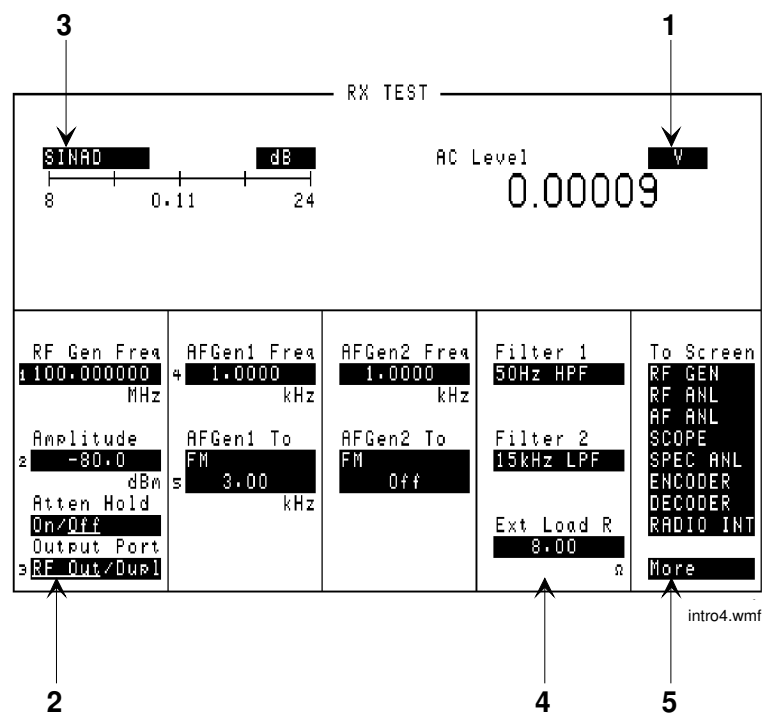

Figure 3 Different Types of Fields
- The front-panel Cursor Control knob (using the **To Screen** menu, see item 5 in figure 3 on page 43)
Unit-of-measure can be changed to display measurements in different values or magnitudes. See item 1 in figure 3 to see an example of a units-of-measure field.
Underlined immediate action fields provide a choice of two settings. See item 2 in figure 3 to see an example of an underlined immediate-action field.
One-of-many fields display a list of choices when selected. See item 3 in figure 3 to see an example of a one-of many field.
The **To Screen** menu (see item 5 in figure 3) is a variation of the one-of-many field.
Numeric-entry fields contain values for settings like External Load Resistance and RF Generator Frequency. See item 4 in figure 3 to see an example of a numeric-entry field.